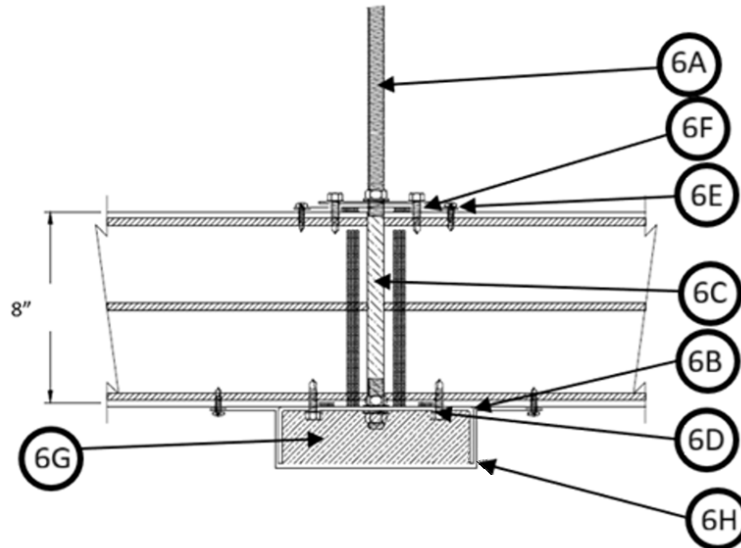
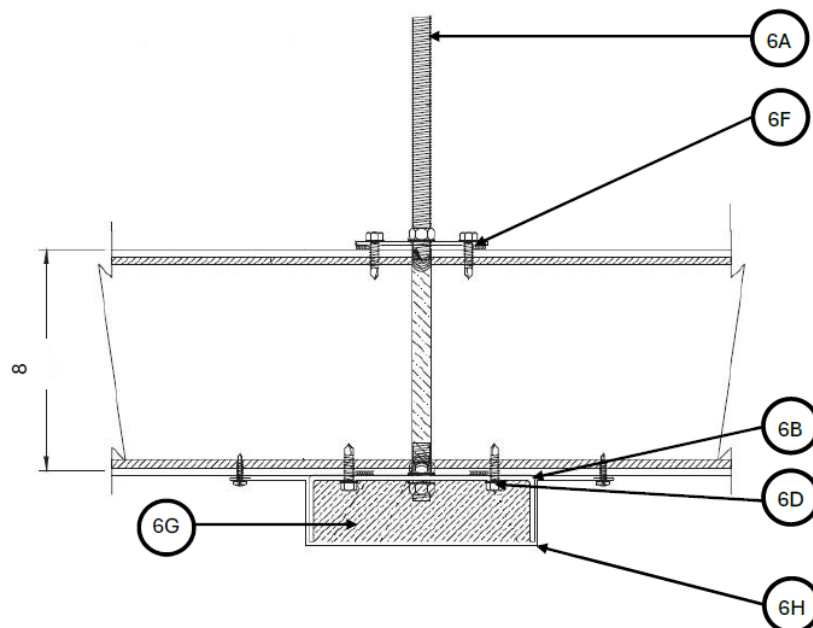
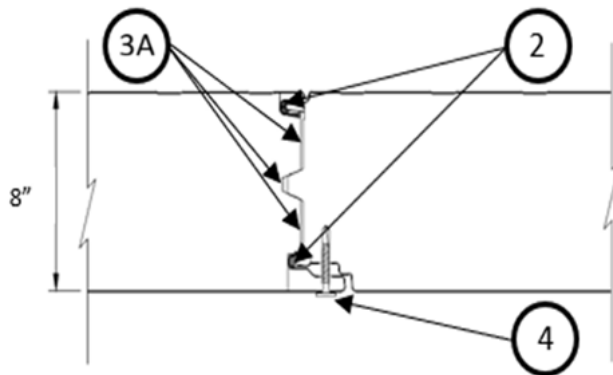

Figure 1. Butt Joint W/Hanger
Figure 2. Mid-Panel W/Hanger
Figure 3. Interlocking Panel Joint W/Safire
Refer to **Figures 1 and 5** for butt joints, and **Figures 3 and 4** for interlocking joints.
- A. **OPTION 1** – Refer to Figure 3. Apply three 20mm beads of Kingspan's Safire Intumescent Mastic in the interlocking joints of the mineral wool core.
- A. **THREADED ROD** – Secure 3/8 in. diameter threaded rod, spaced a max. of 42 in. oc, to structural member (not shown). The max. hole diameter for the rod installation shall be 1/8 in. greater than the rod diameter. Threaded rod shall be installed between the panel butt joint as shown in **Figure 1**. Alternatively, the rod can be installed through the middle of the panel, as shown in **Figure 2**. For installation at mid-span locations, apply 3M Fire Barrier CP 25WB+ sealant at the penetration points at the top and bottom of the panels. Maintain a max. of 5 ft. oc ceiling channel spacing.